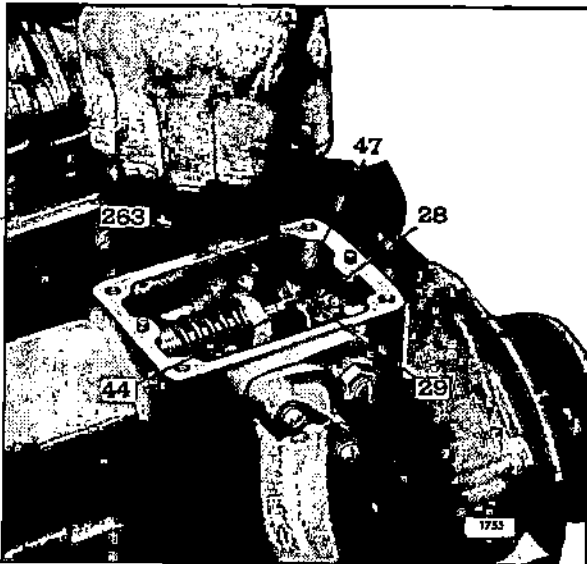

Fig. 5 - Adjusting Governor Gap
7. Check the gap between the low speed spring cap (47) and the high speed spring plunger (44) with gage (.170") J 5407 as shown in Fig. 5.
8. If required, loosen the lock nut (29) and turn the gap adjusting screw (28) until a slight drag is felt on the gage.